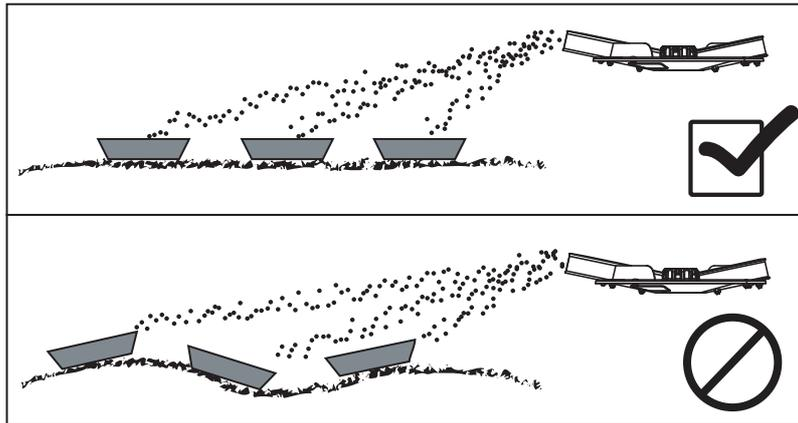

Figure 8.25: Layout of the catch trays
- Make sure that the trays are placed on level ground. Slanted trays may cause measuring errors (figure 8.25).